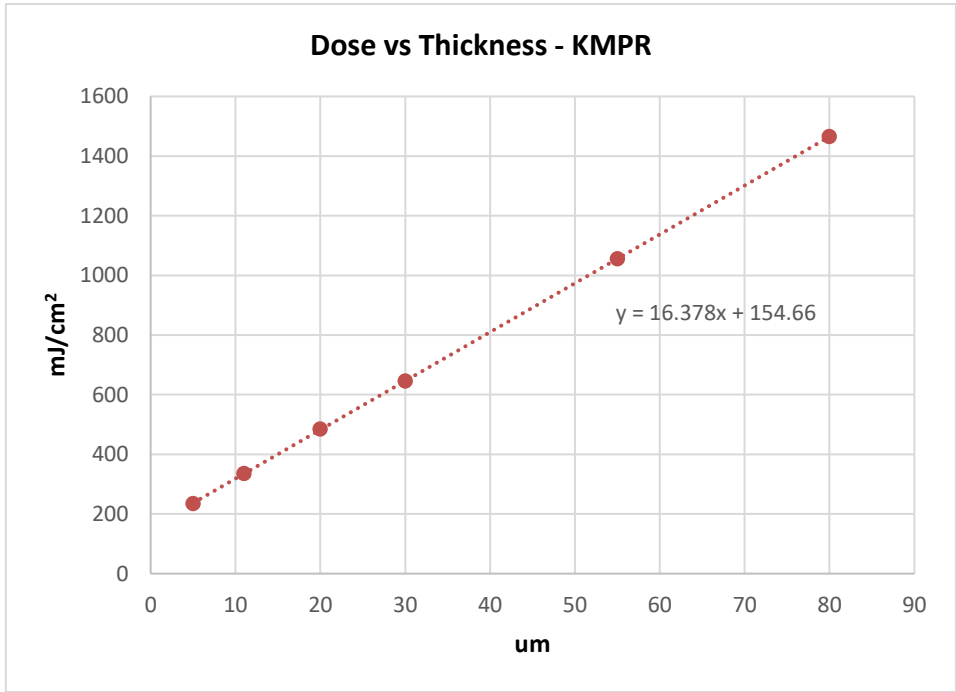

Figure 2
- a. Refer to KMPR data sheet for necessary exposure energy (Table 3, 4, 5 and Figure 2)